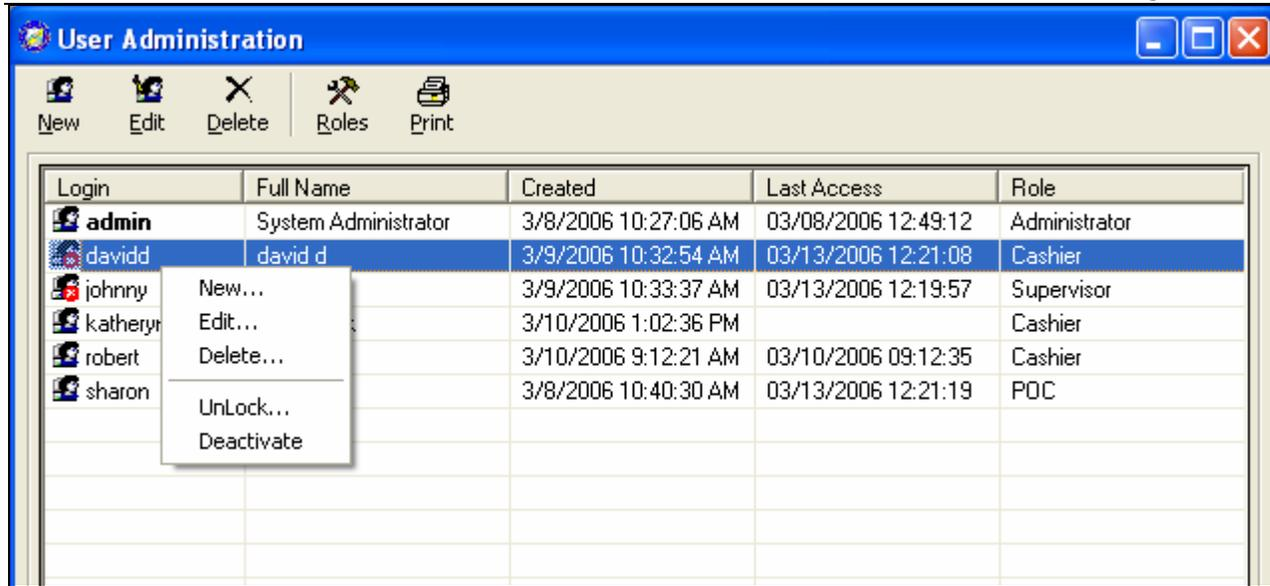

Figure 3.15
- To unlock, a user's account, right-click on the user's login. A drop down menu will appear with choices as seen in Figure 3.15.